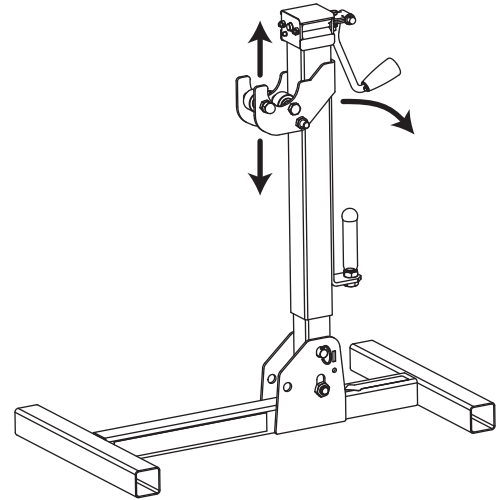

Figure 3.
5. Place the reel stand under the spindle and adjust the jack head assembly by pivoting and sliding it up or down so that the rollers are just under the spindle. For very large reels, the jack may also need to be raised by turning the crank arm to reach the proper height. (Fig. 3)